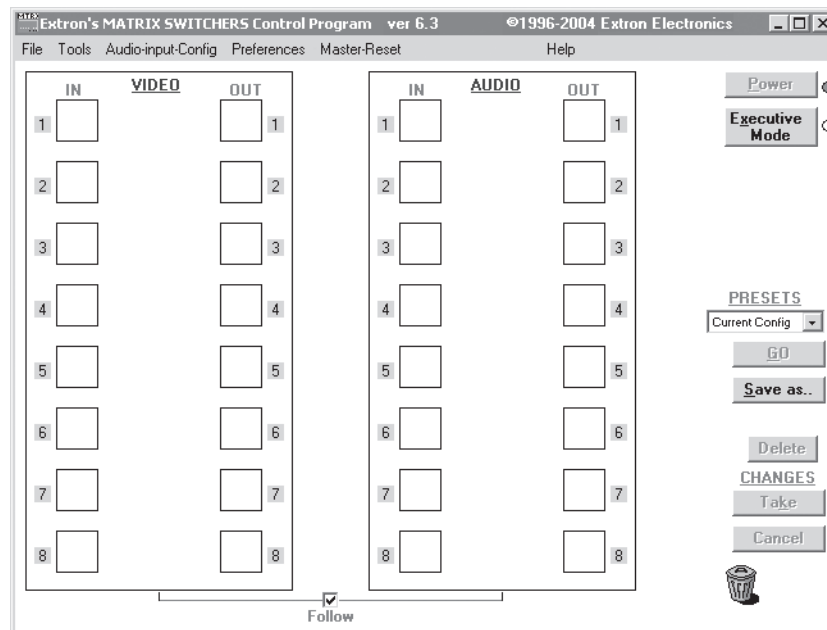
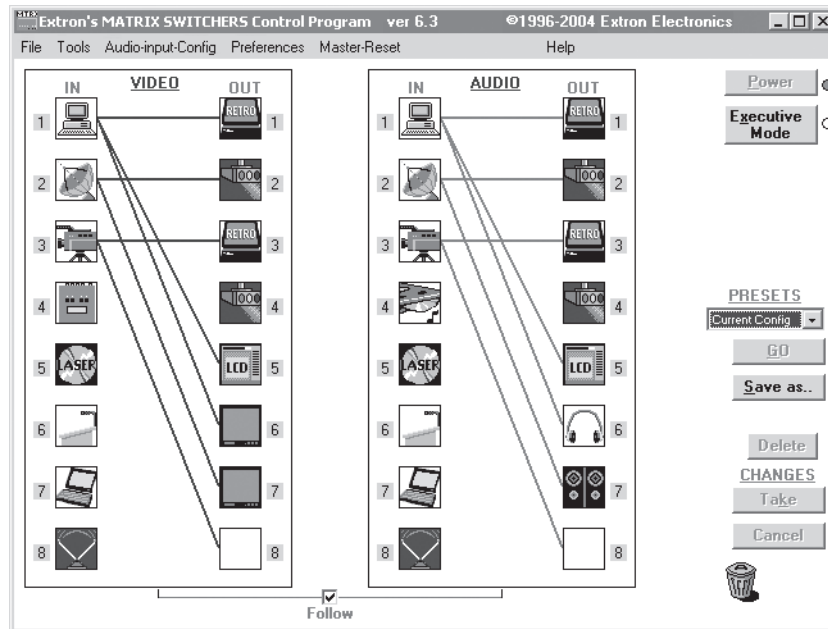

Figure 4-7 — Extron Matrix Switchers Control Program window (blank)
Figure 4-8 — Sample program window (complete)
3. The Extron Matrix Switchers Control Program window (figure 4-7 and figure 4-8) displays the current configuration of the attached matrix.